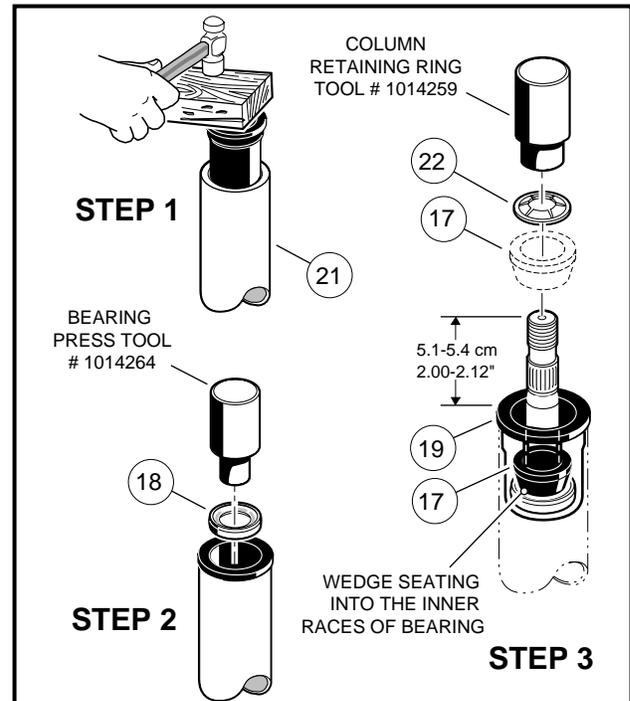

Figure 7-4 Top End of Steering Column
- Turn the assembly over and place the shaft on a bench. Install the wedge (17) and retaining ring (22) onto the top of the shaft. Be sure that the prongs on the retaining ring face up and away from the wedge. Use a steering column retaining ring tool (Club Car Part No. 1014259) to seat the retaining ring to the proper depth. If you do not have the recommended tool, use the same tube as was used in Step 2 to press the retaining ring onto the top of the shaft. The retaining ring should be pressed onto the shaft until 2 to 2.12 in. (5.1-5.4 centimeters) of the shaft extends from the top of the bearing seat in the steering tube (**Figure 7-4, Page 7-5**).